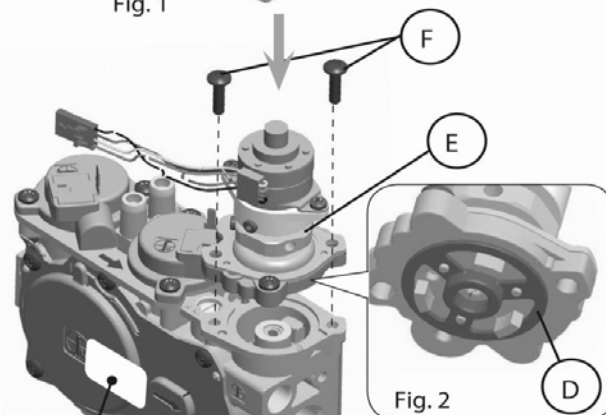
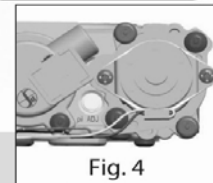

Fig. 3
Fig. 4
- 4 Install the new STEPPER MOTOR pressure regulator assembly, as shown in Fig. 3 and Fig. 4. Use the supplied screws (F), M4 x 0.7 threaded, length of thread $L=(16\text{ mm} + 0 - 0.5\text{ mm})$, steel material, resistance class 8.8 (see Fig. 5).